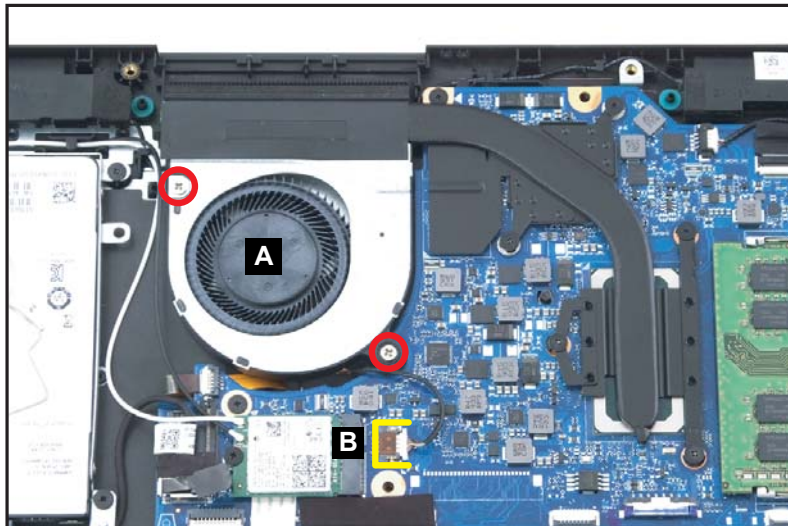

Figure 1-14. Fan Removal
1. Find the fan (A) on the top assembly (Figure 1-14).
2. Disconnect the fan cable from the mainboard connector (B) (Figure 1-14).
3. Remove two (2) screws securing the fan in place (Figure 1-14).